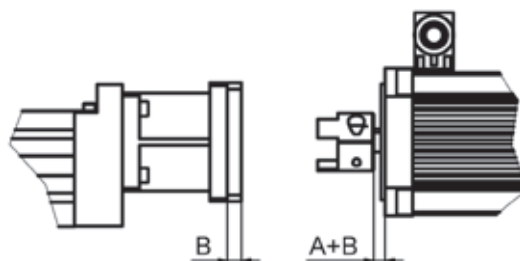

Figure 3.14 __ Mounting dimension
1. Insert the coupling hub **2** on the drive or gearbox shaft. The dimension A (Figure 3.14) from Table 6.24 in Chapter 6.2.4.2 and dimension B when using an optional intermediate flange **5**, should be considered.